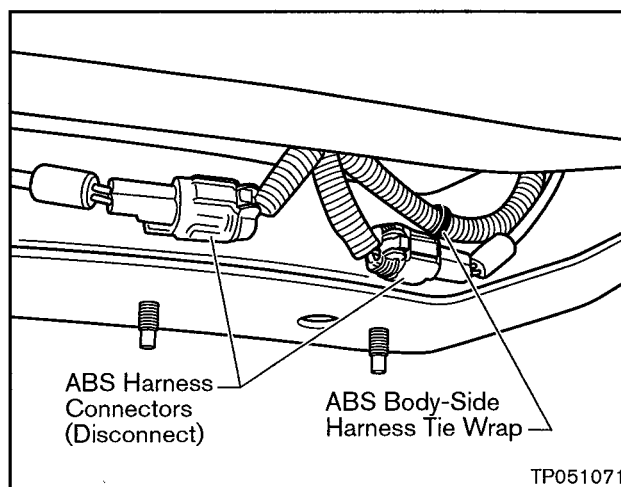

Figure A16
10. Disconnect the two ABS harness connectors from the back side of the rear suspension member (if equipped). See Figure A16.